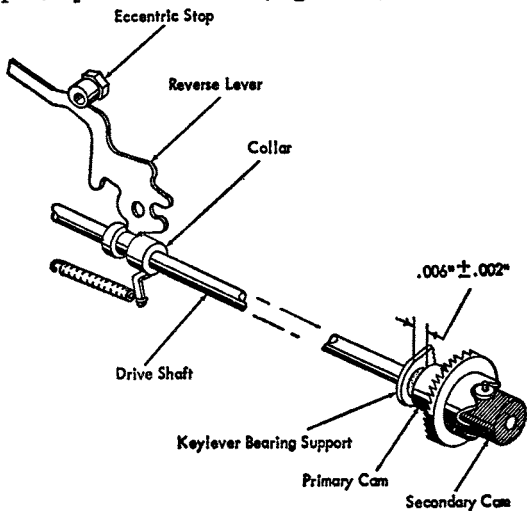

Figure 43. Reverse Lever Eccentric Stop
**13. REVERSE - LEVER ECCENTRIC - STOP.** With the reverse lever unlatched adjust the eccentric stop until the primary cam clears the keylever bearing-support by  $.006'' \pm .002''$  (Figure 43).